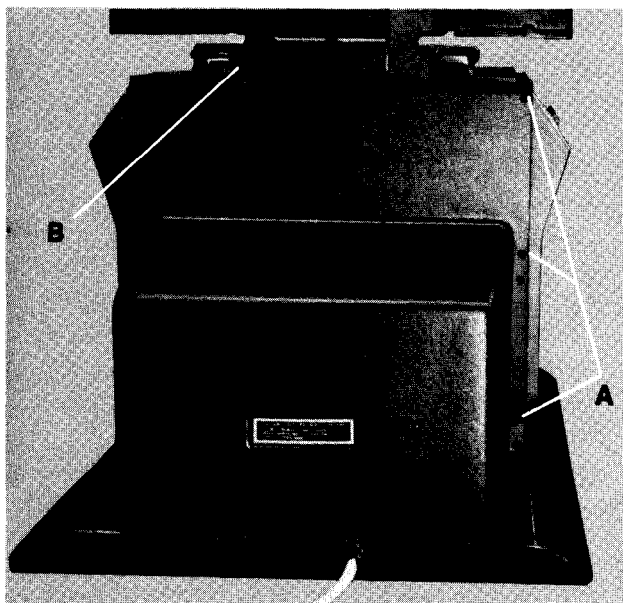

Fig. 13
- 1) Remove motor cover by removing (6) screws, Item A, Fig. 13, and pulling bottom of cover out until top of cover disengages from retaining channel.
- 2) Replace motor cover by inserting top of cover into retaining channel, Item B, Fig 13, and pushing bottom of cover in until top is fully engaged in channel. Align holes and install (6) # 10 x 3/8" screws, Item A, Fig. 13.